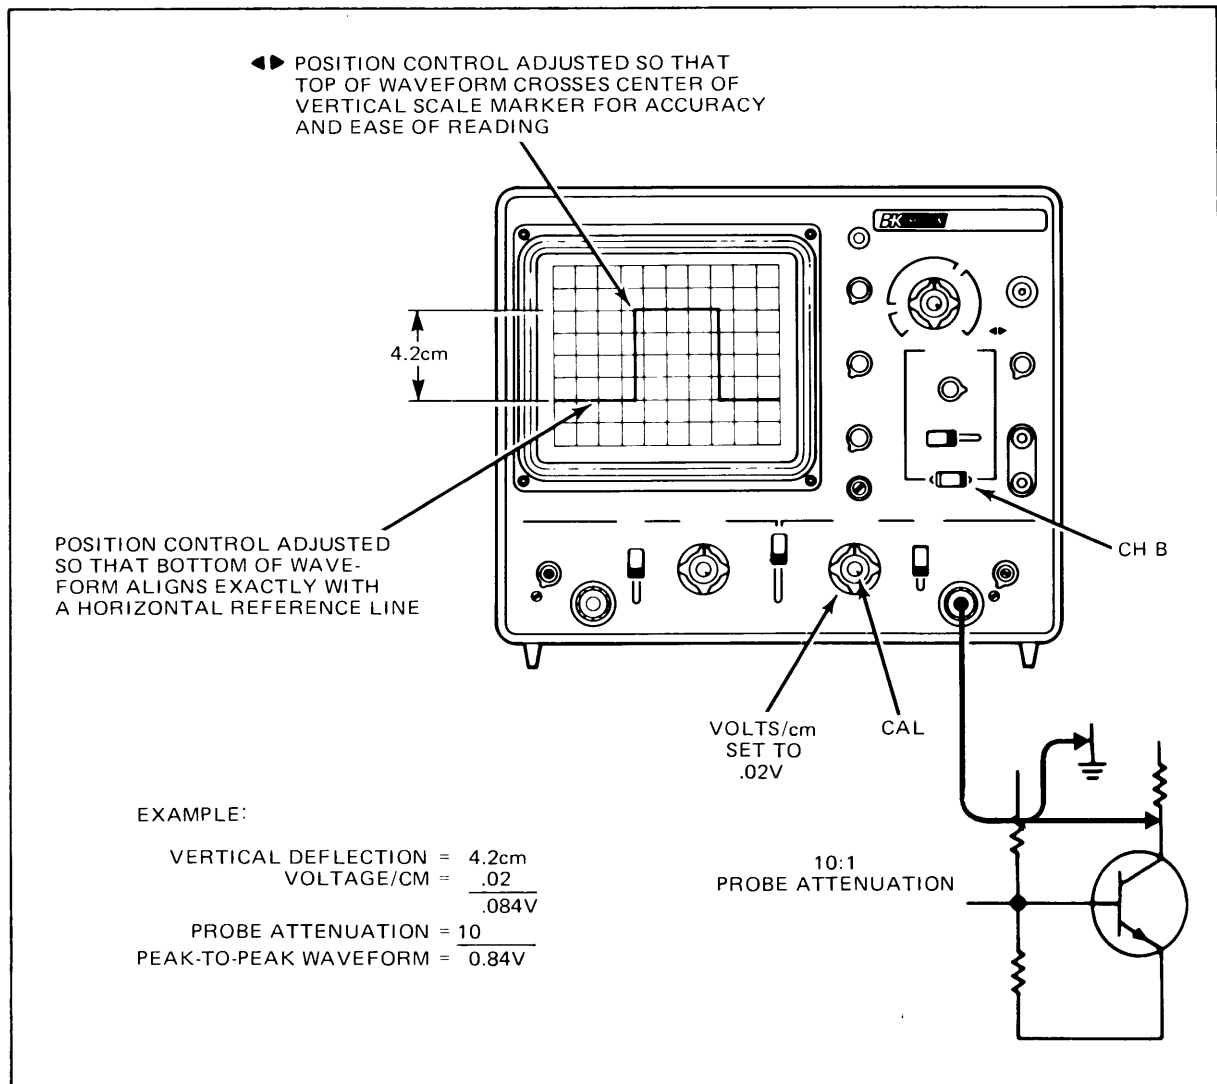

Fig. 4. Typical voltage measurement.
CALIBRATED VOLTAGE MEASUREMENT (See Fig. 4)
5. Calculate the voltage reading as follows: Multiply the vertical deflection (in cm) by the VOLTS/CM control 17 setting (see example in Fig. 4). Don't forget that the voltage reading displayed on the oscilloscope is only 1/10th the actual voltage being measured when the